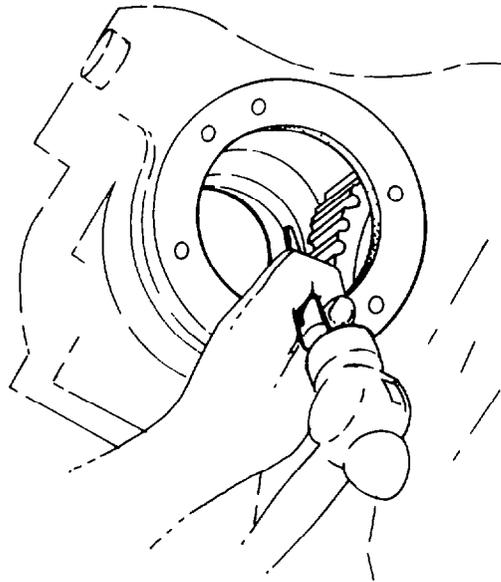

Fig. 288 — Removing Pinion Shaft Bearing Cup
- g. Remove the pinion shaft bearing cup located in the carrier housing, using a suitable drift and hammer (see fig. 288).